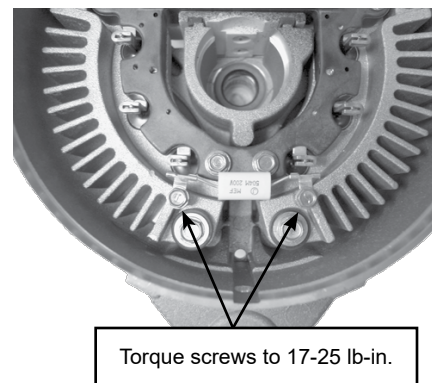

Fig 10
Step 11: To properly install the new filter capacitor Please refer to Fig 10.